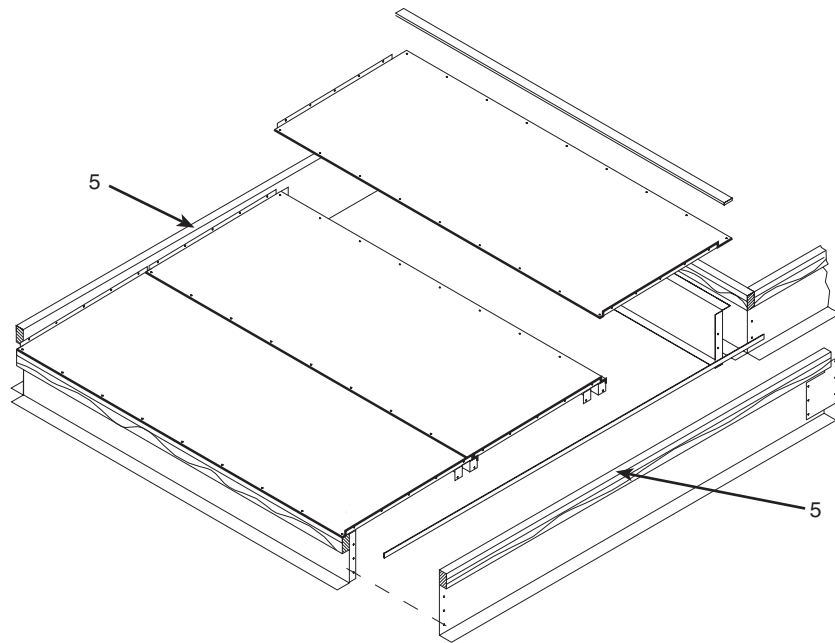

Fig. 8 — Gasket Location — Condenser Section Roof Curb (Size 055-105 Units)
Condenser Section Roof Curb (See Fig. 8) — Apply single-thickness gasket along both side rails (5).